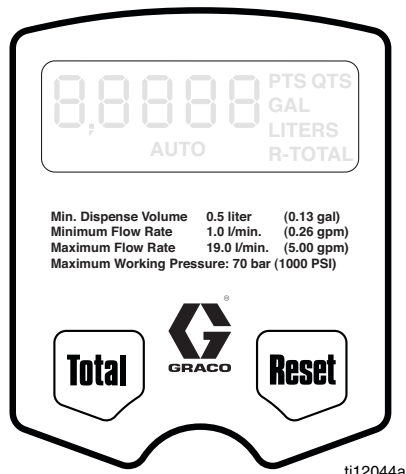

FIG. 10
## Setup Menu (FIG. 10)
1. If the display is blank (asleep), wake it up by pressing any button on the keypad (FIG. 10).
2. Press and hold the Total and Reset buttons simultaneously for approximately six (6) seconds to enter the Setup Menu (FIG. 10).